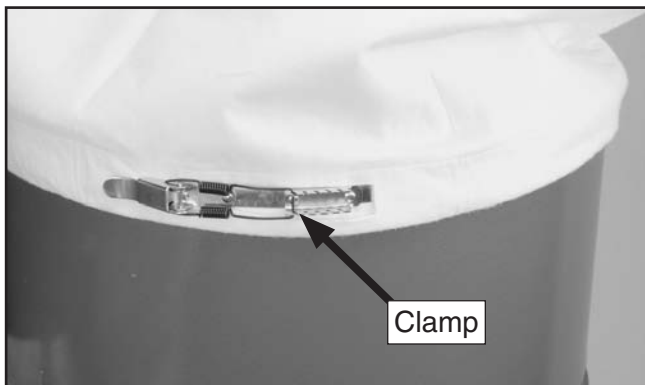

Figure 23. Upper collection bag secured.
- b. Tighten the upper bags to the collector using the strap and clamp kits shown in **Figure 23**.